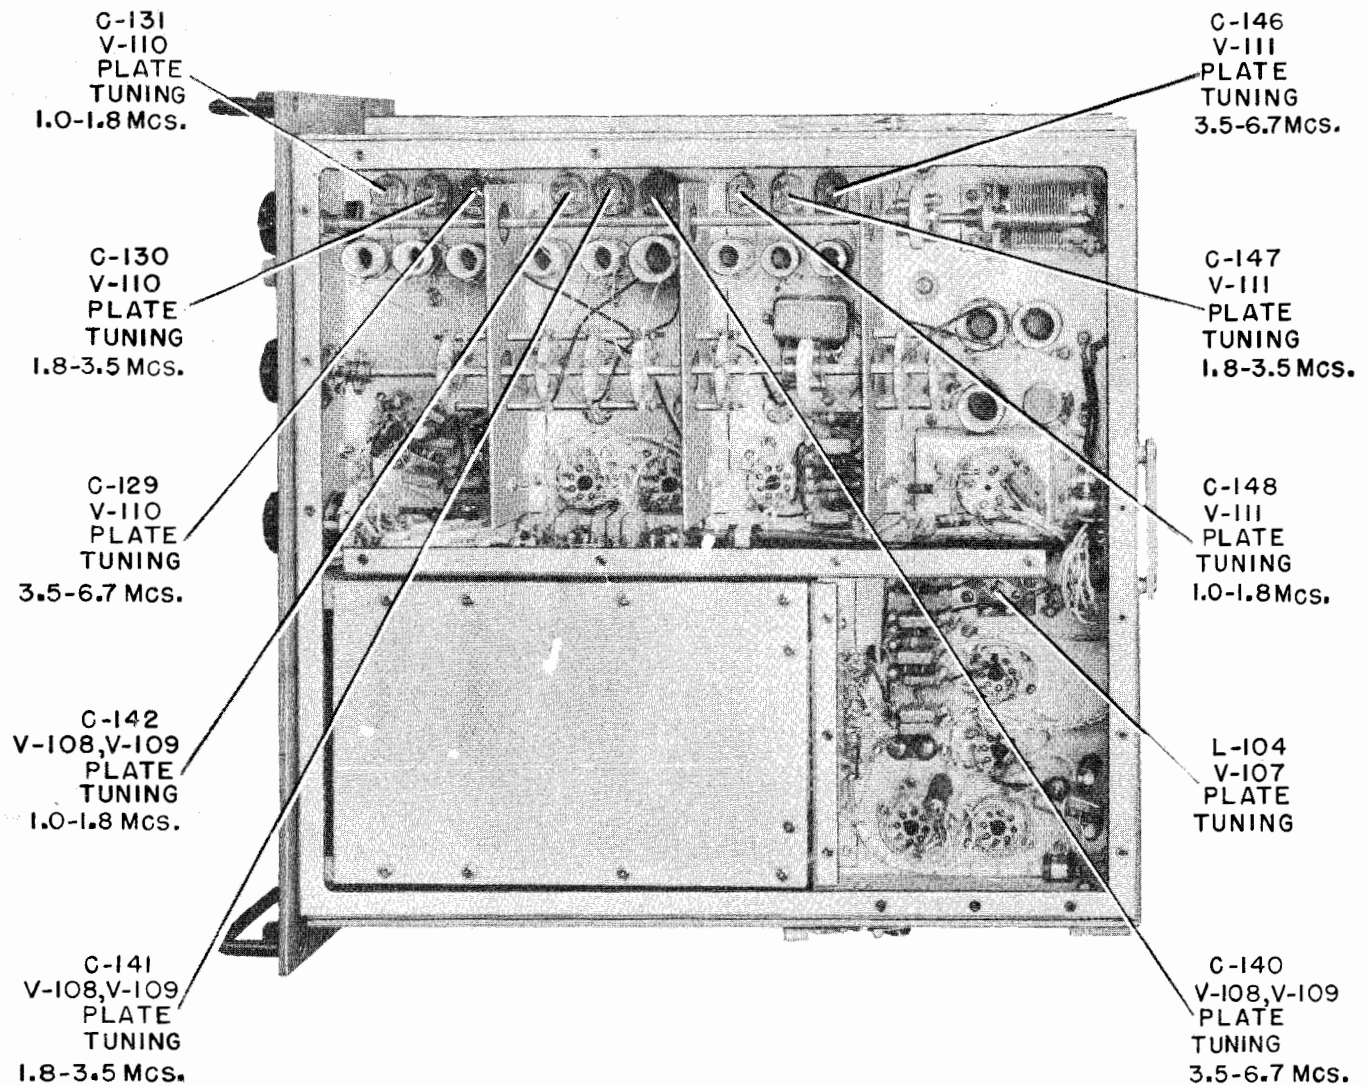

Figure 7-8. Alignment Adjustment Locations, Bottom View of Amplifier-Oscillator AM-655/URT
a. ALIGNMENT DATA.—This section contains all information necessary to permit maintenance personnel to align the keyer. It is important that the function of each circuit element is understood so that the correct alignment may be obtained quickly and accurately. See Figures 7-8 through 7-12 for location of all alignment adjustments.